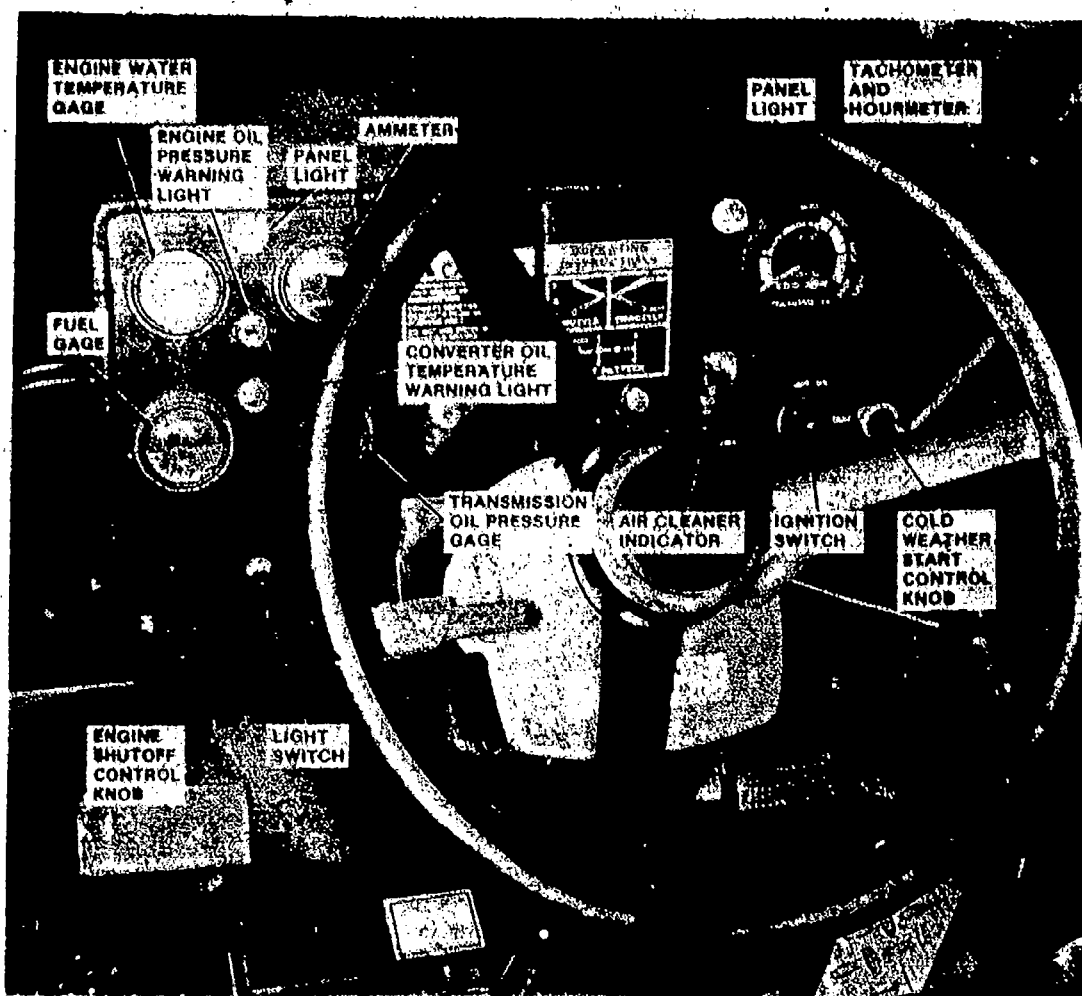

Fig 4-9. Control panel instruments and controls.
(1) Instrument panel instruments and controls (fig 4-9).